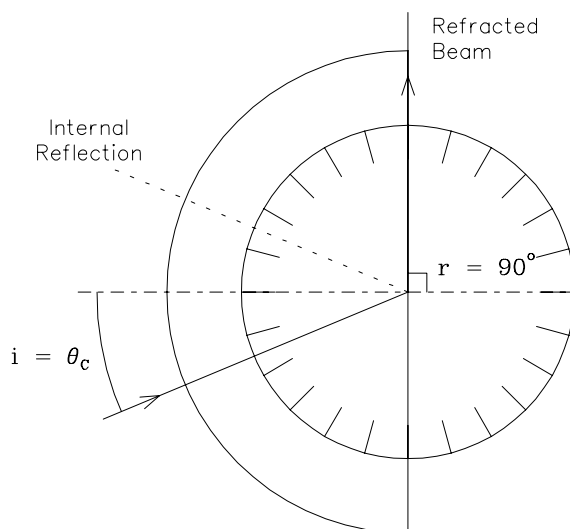

Figure 4.4: Critical angle setup for Part III
- Observe the refracted beam and adjust the angle  $i$  of the incident beam to set the angle of refraction  $r$  at  $90^\circ$  so that the refracted beam disappears as in Figure 4.4.